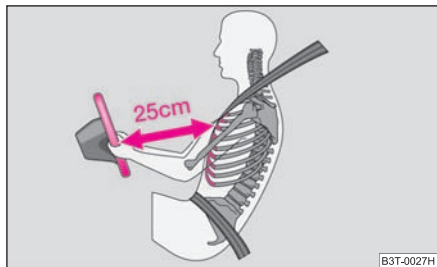

Fig. 157 Safe distance to steering wheel
- For the driver and front passenger it is important to maintain a distance of at least 25 cm from the steering wheel or dash panel ⇒ fig. 157. Not maintaining this minimum distance will mean that the airbag system will not be able to properly protect you - hazard! The front seats and the head restraints must always also be correctly adjusted to match the body size of the occupant.